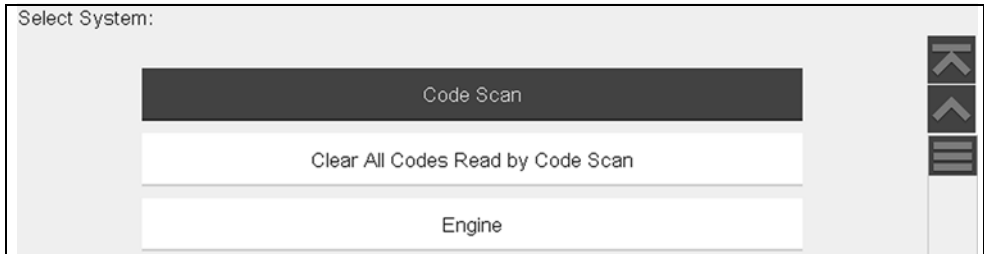
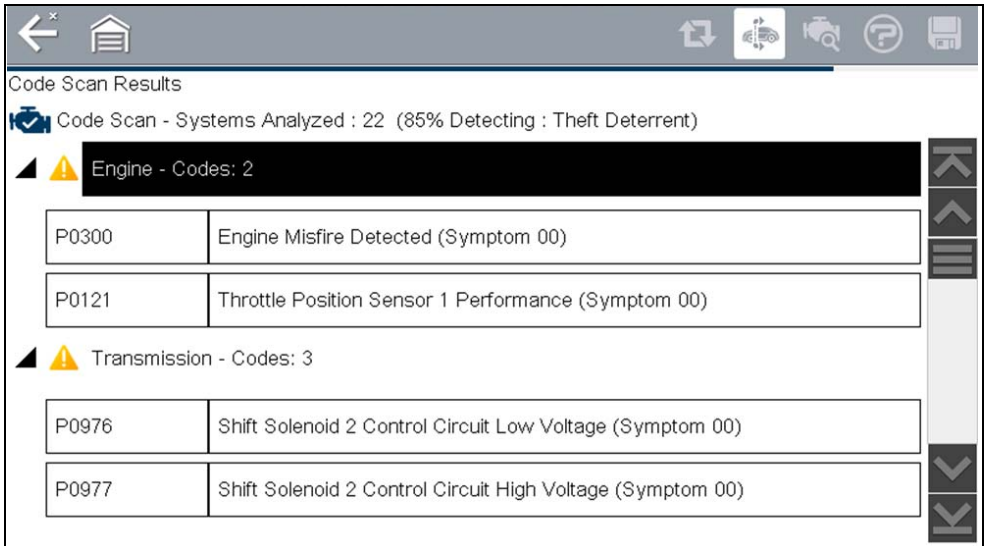

Figure 7-2
Figure 7-3 Code Scan in process
Selecting **Code Scan** from the Vehicle System menu (Figure 7-2) starts an active scan of vehicle control modules, and opens the Code Scan results screen (Figure 7-3).
*Selecting **Clear All Codes Read by Code Scan** (Figure 7-2) erases all DTCs from all vehicle system modules that were read by Code Scan. Selecting this function may not clear global OBD-II codes on some vehicles.*
When initially opened (Figure 7-3), a progress bar is shown at the top indicating the active scanning progress. Once completed, code results are displayed by system.
Code Scan control icons are located on the upper toolbar (Figure 7-3), and provide the following functions.